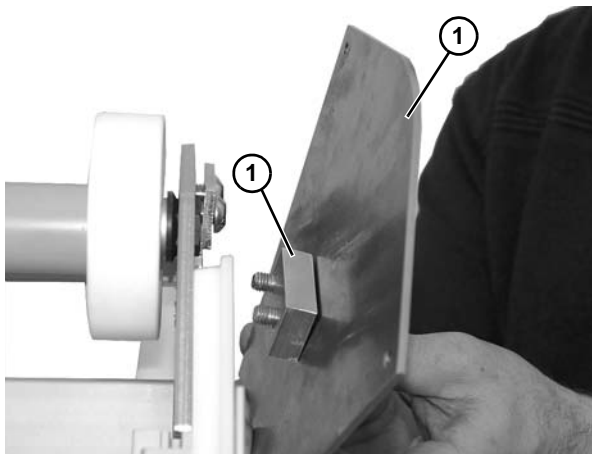

Figure 110
7. Remove cover plate (Figure 110, item 1), along with two socket head screws and spacer block (Figure 110, item 2). Repeat on other side.